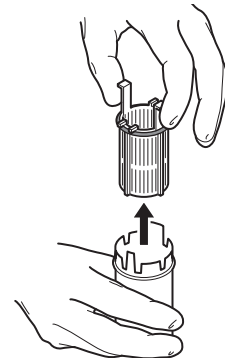

Figure 10 Remove Filter From Manifold
2. Remove the filter from the manifold to collect the specimen (Figure 10).